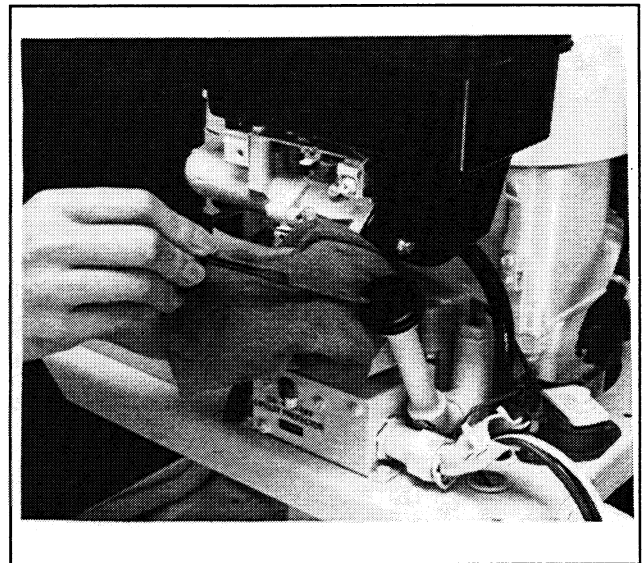

Figure 3-1. Oil Check
3. Unscrew oil cap and wipe dipstick clean. See Figure 3-1.